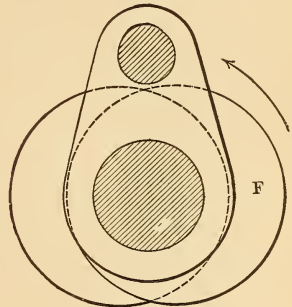

Fig. 107. Two Eccentrics, Lapless Valve with Rocker.
A. Each should be run back of the crank-pin (in the opposite direction from that which it is required to run the engine) 90° . (See figure 107, in which the forward eccentric is marked "F.")